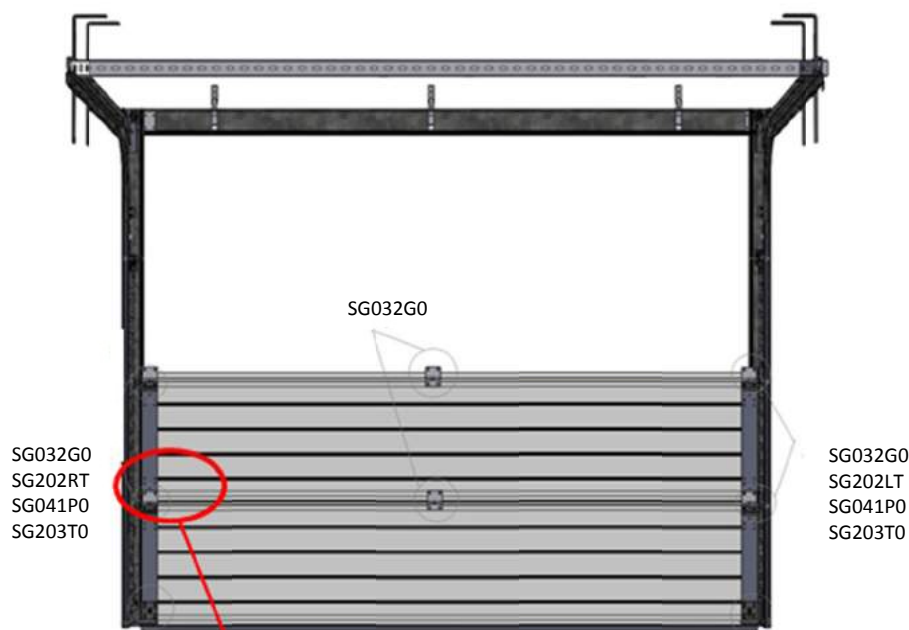

Figure 27: intermediate panel installation
- Place the panel on the lower panel. Slide the remaining roller (ref SG203T0) into the roller holder and bolt the nuts onto the roller holders using a pair of 24 mm flat spanners (see figure 27).